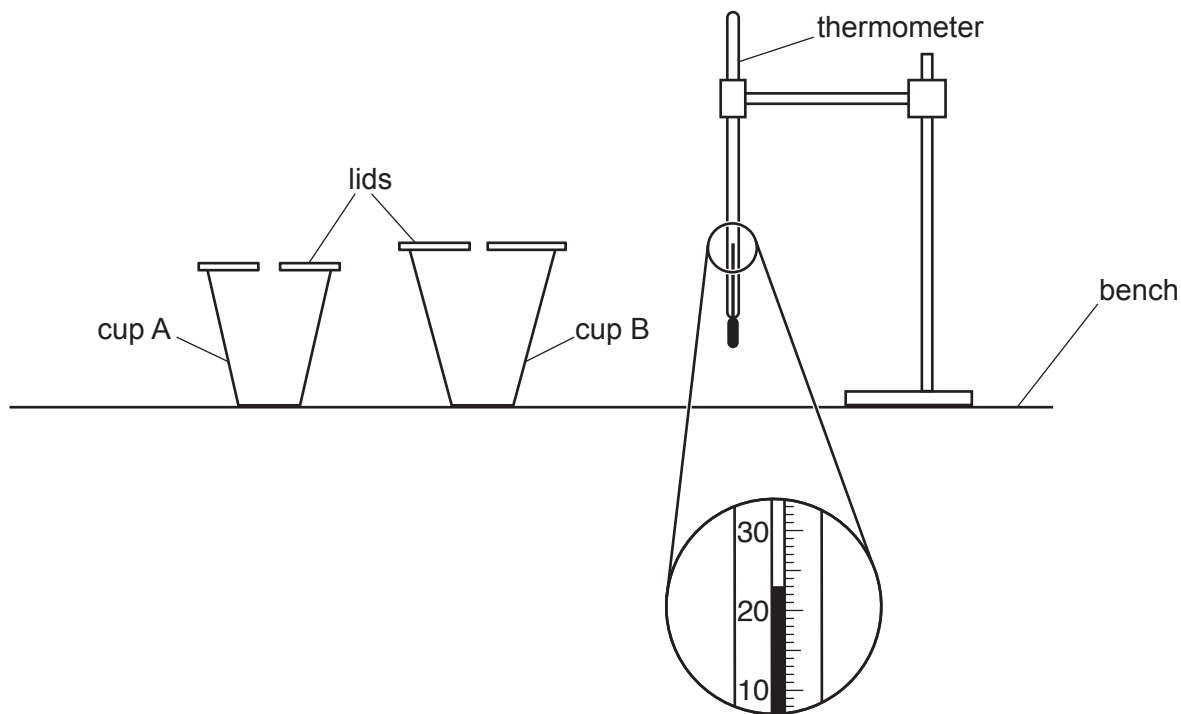

Fig. 2.1
They use the apparatus shown in Fig. 2.1.
- (a) (i) Record the room temperature θ_R shown on the thermometer in Fig. 2.1.